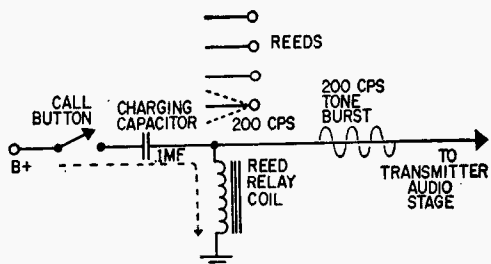

Fig. 4. Schematic diagram of encoder shows how circuit generates audio tone burst of 200 cycles/sec.
**Encoding Signals.** A remarkably simple circuit (Fig. 4), using the same reed relay, can transmit the calling tone. The encoder has neither tubes nor transistors. When an operator wants to alert his outlying station, he presses the call button. This is just a switch which connects a source of B-plus
At the top left of the schematic in Fig. 4 is the 4-reed resonant relay. When the instrument is first set up, two tones are selected; the other reeds are made inactive by plastic tubing. As the call button (S1) is depressed a surge of B-plus voltage is applied to the coil of the resonant reed relay at the top left of the schematic. In the same manner described for Fig. 4, the active reeds (1 and 4) are plucked into vibration. They induce audio voltages in the coil winding and this energy is used to modulate the transmitter with the desired 2-tone code.